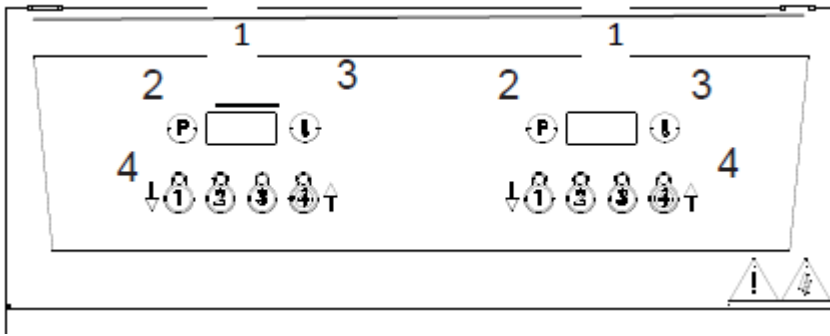

Figure 3 – E422/422F Control Panel
2.3.2 E422/E422F Fryer Control Panel (See Figure 3)